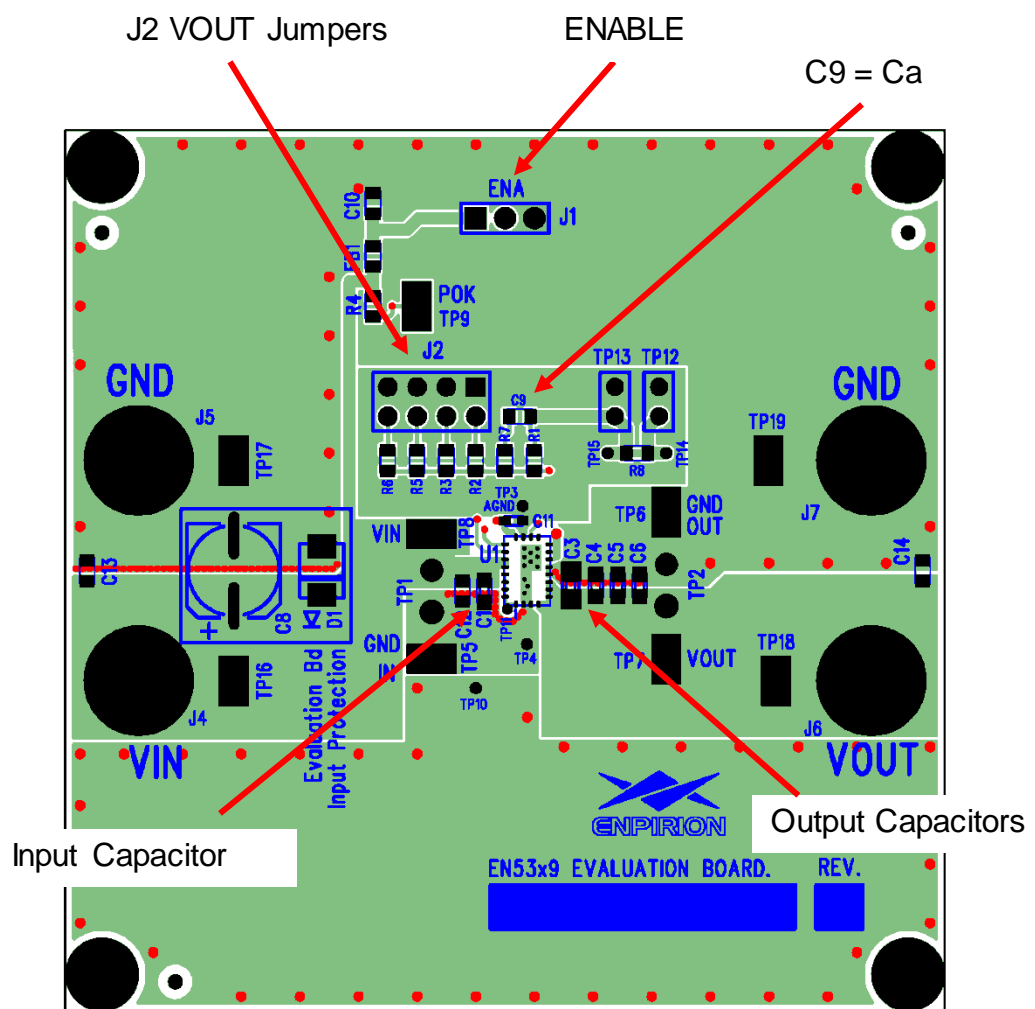

Figure 1. Evaluation Board top view.
Figure 1 shows a photograph of the evaluation board. Please refer to this figure while configuring the board for evaluation.
**Please note: The loop compensation circuit for this evaluation board has been chosen for a wide range of VIN and VOUT values. In order to optimize the loop for any specific VIN/VOUT operating point, please see the compensation table in the datasheet. See Figures 1 and 3.**